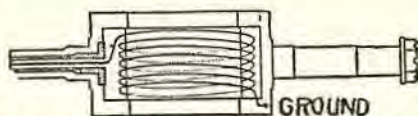

Fig. 4B. Primary winding on armature core. Note that one end is grounded to the core and the other end is insulated.
The single primary winding is shown in Figs. 4B and 4C. One end (A) conducts the current from the armature to the collector ring and the other end is grounded (G).